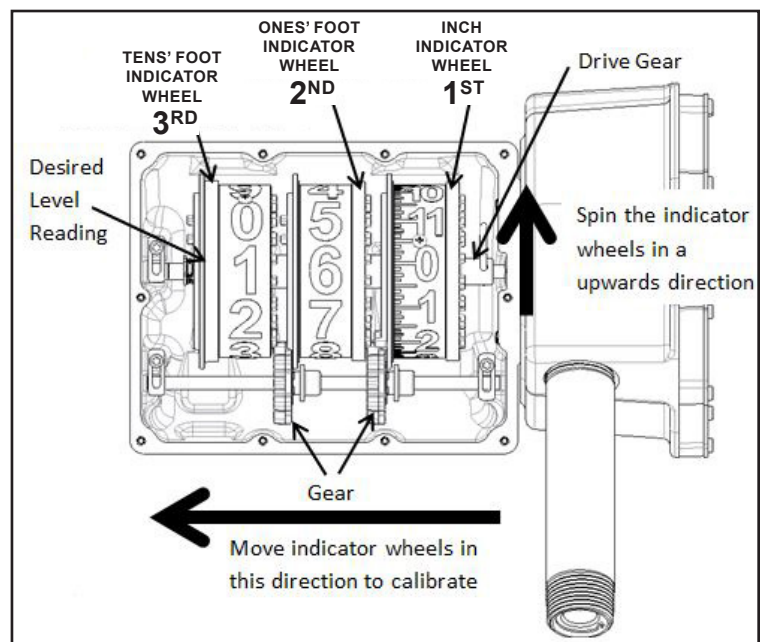

Figure 6
26. Now the gauge can be calibrated to the liquid level you found in step 6. Calibration is done one indicator wheel at a time (See Figure 6). Start with the inch indicator wheel. Grab the indicator wheel and push it to the left to clear the drive gear. The inch indicator wheel must be fully disengaged from the drive gear. The indicator wheel should now freely spin. Spin the wheel UPWARDS so that the numbers are counting up. Once at the correct setting, slowly let indicator wheel seat back into the drive gear. Failure to follow this procedure can cause damage to the internal mechanism and render the gauge inoperable. **Note: desired level reading needs to be in the center of the viewing window.**
27. Calibration for the foot readings is done in a similar manner pushing the indicator wheels to the left so they clear the gears that are offset below the indicator wheels (See Figure 6.) Calibrate the ones' foot indicator wheel and then the tens' foot indicator wheel. **Note: desired level readings need to be in the center of the viewing window.**